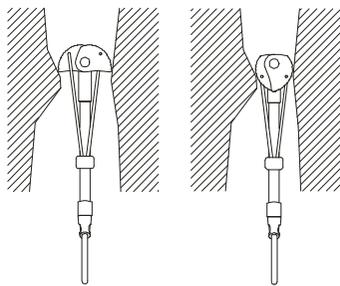

fig 3
2. Never place a unit so that the cam are offset, e.g. with two cams extended and cams retracted.(fig 3)